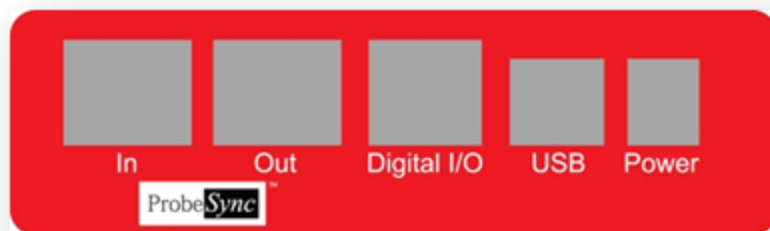

Figure 2.4 - Back Panel - USB
3. Insert the USB cable into the USB port on the Frontline BPA 500 (Figure 2.4).